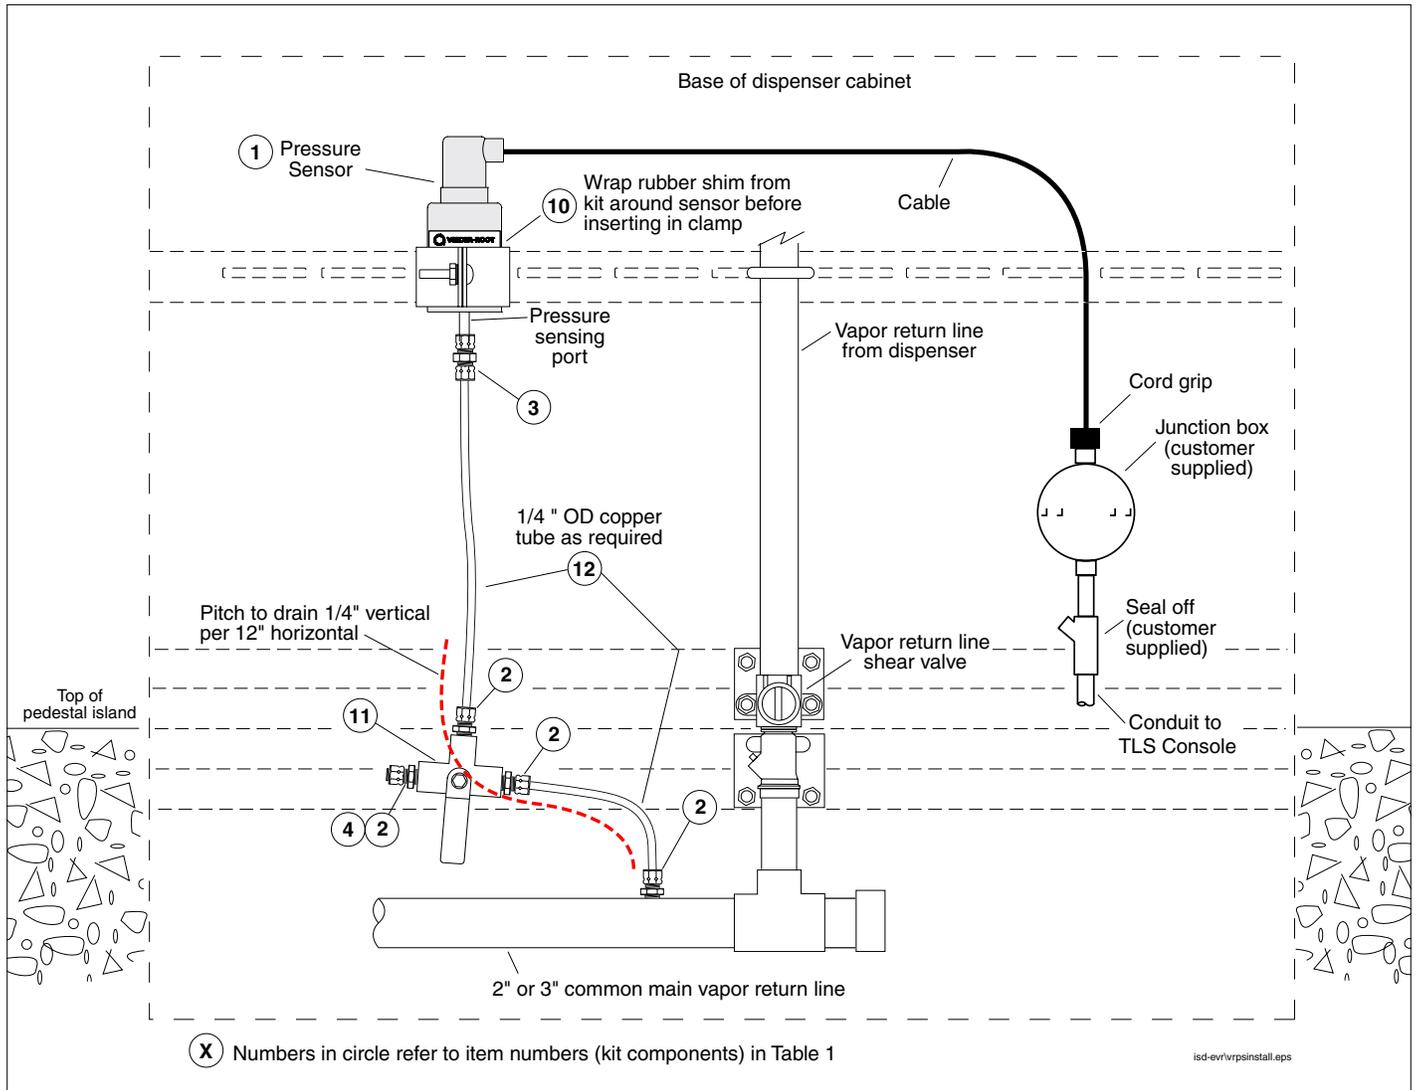
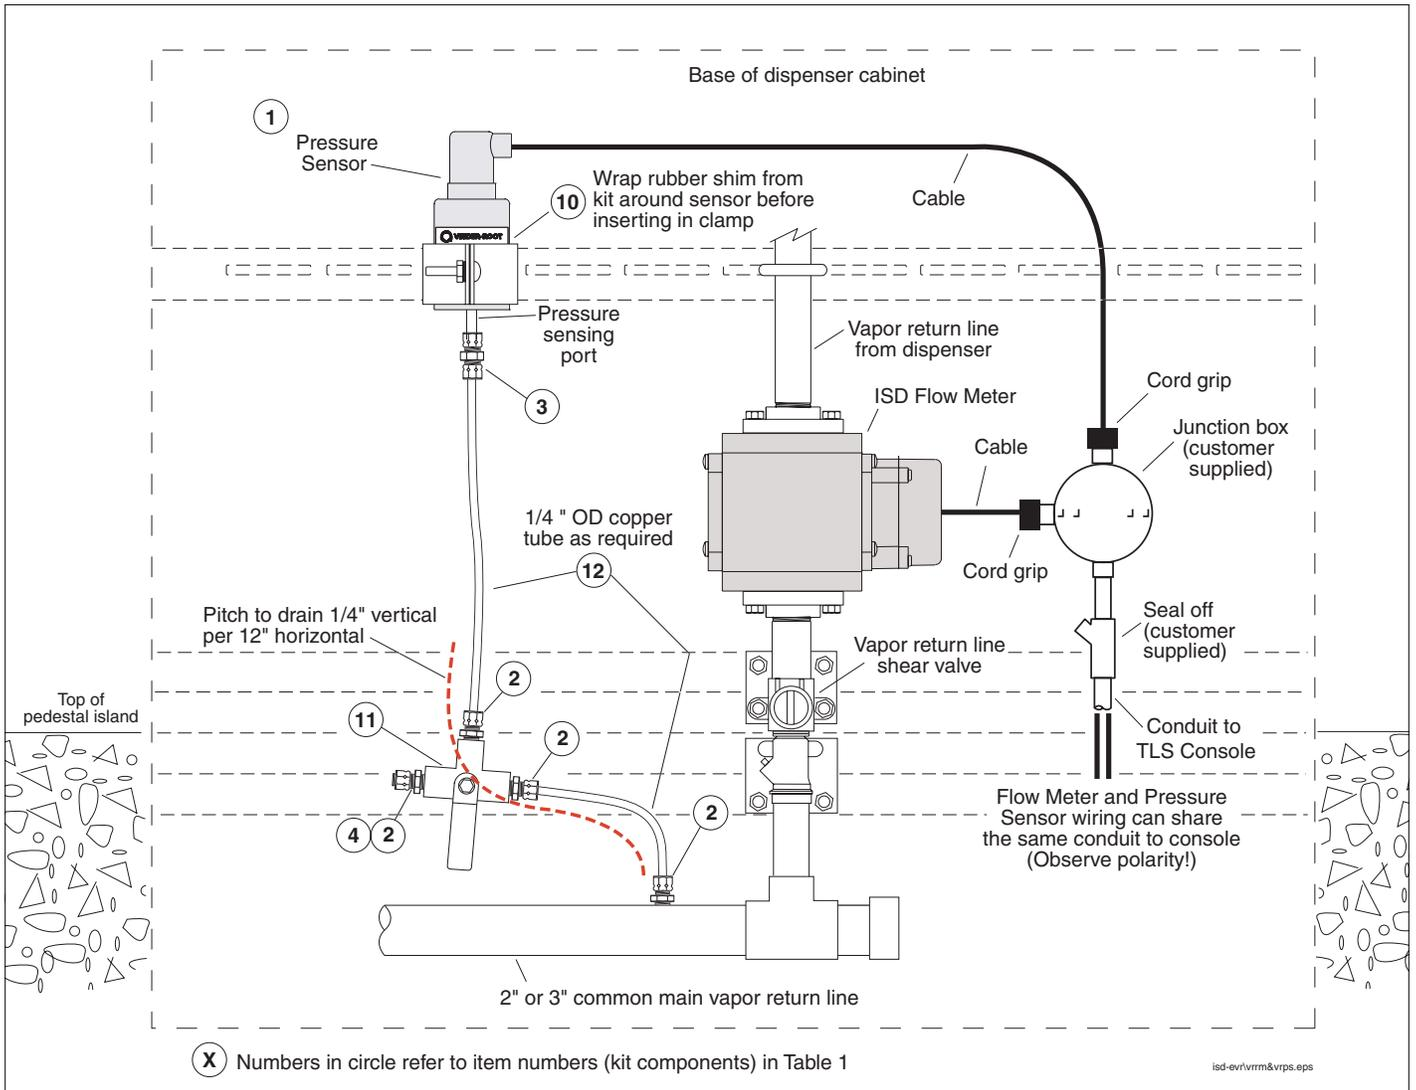

Figure 17-1. Example Pressure Sensor Install - Non-ISD Installation (without Vapor Flow Meter)
Figure 17-2. Example Pressure Sensor Install - ISD Installation (with Vapor Flow Meter)
- a. The main vapor return line (see Figure 17-1 or Figure 17-2 as required) - this is the preferred position,
4. Install one of the 68CA-4-4 male connectors (item 2 in Table 17-1) from the kit into the tapped hole.
5. Install Pressure Sensor (item 1 in Table 17-1) vertically to the dispenser frame or piping using the 2-inch conduit clamp, rubber shim, and necessary bolts, nuts, and washers from the included Universal Sensor Mounting kit. Wrap the rubber shim (item 10 in Table 17-1) around the sensor before inserting it into the clamp. Also make sure the sensor cable outlet is facing up and the pressure sensing port tube in the base of the sensor is facing down.
6. Attach one end of the 62CA-4 union (item 3 in Table 17-1) to the pressure sensing port in the base of the Pressure Sensor.
7. Install the remaining 68CA-4-4 male connectors (item 2 in Table 17-1) from the kit into each of the three ports in the 3-way calibration valve (item 13 in Table 17-1).
8. Measure, fabricate, and install a 1/4" OD copper tube (item 12 in Table 17-1) that runs between the 62CA-4 union in the base of the sensor and the center port of the 3-way calibration valve.
10. Screw the 59CA-4 plug, item 4, from the kit onto the last port's male connector. Make sure the valve's handle is set to connect the sensor to the vapor return line and not to the capped (ambient) port.